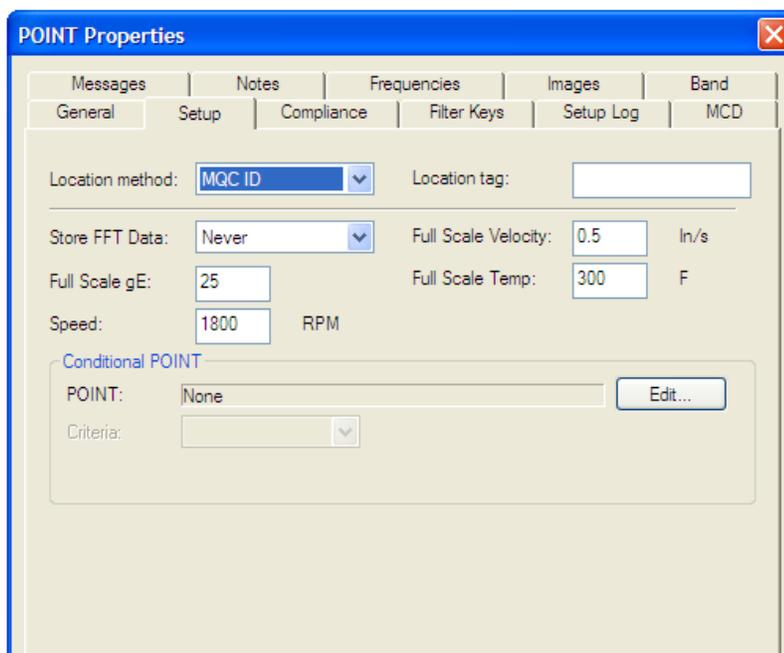

Figure 1. POINT Properties
1. In @ptitude Analyst, set each POINT's **Location Method** to **MQC ID**. [Figure 1] A **Location Tag** field will appear, however, since the MQC ID is unknown, do not specify the Location Tag (leave it blank).